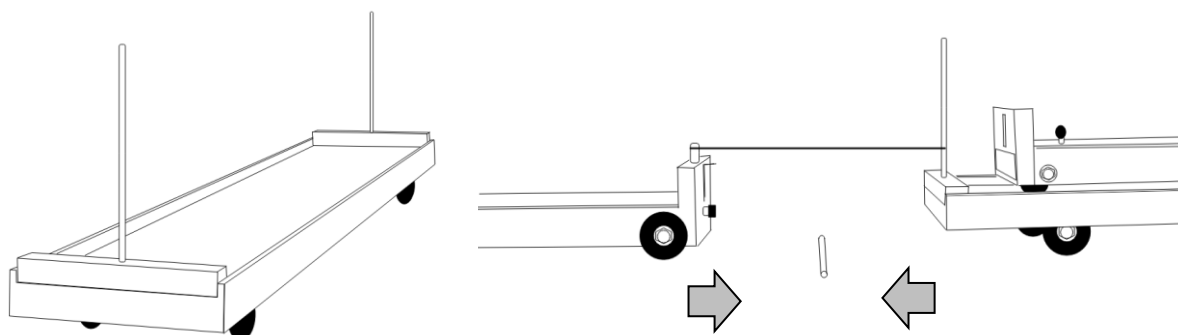

Fig. 2
- 2) Tie the stick of wooden cart to the anchoring rod of metallic cart with a rubber band (see Fig. 2).
- 3) Place a stick in the middle between the two carts (see Fig. 2).
- 2) Place the other metallic dynamic cart on the wooden dynamic cart (see Fig. 2) to double its mass. Therefore, the mass ratio of metallic cart and wooden cart unit (with a metallic cart on top) is 1 : 2.
- 3) Tie the stick of wooden cart to the anchoring rod of metallic cart with a rubber band (see Fig. 2).
- 4) Place a stick in the middle between two carts (see Fig. 2).